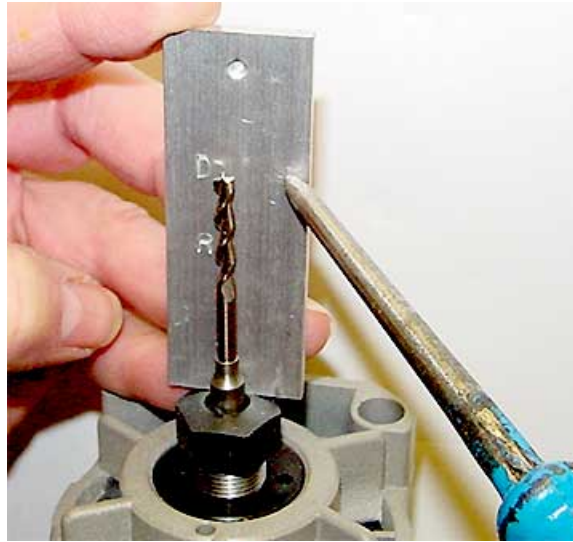

Fig 28
5. Replace the bit. A Bit Gauge is provided to record your preferred Router Bit Height. Once a preferred setting is selected, mark or scribe your settings on the aluminum plate. ("R" Router) **See Fig 28.**
2. Open the rear door and locate the Drill Motor at the top of the Motor Carriage. Just to the left is the Drill T-Knob that tightens a bolt holding the Motor in place. **See Fig 28.**